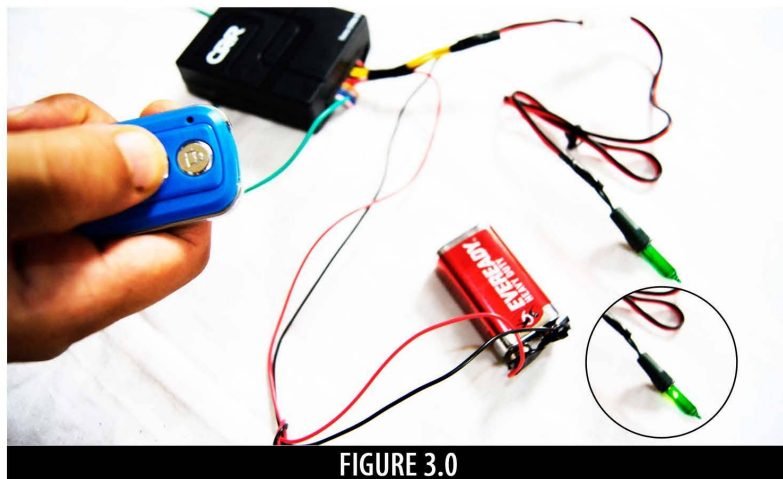
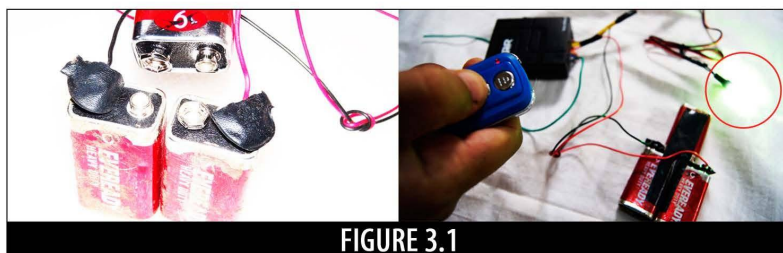

FIGURE 3.0
FIGURE 3.1
14. Connect the battery connector to the 9V battery. Press the unlock button on the remote for testing. If the connection is right, the lamp will light as shown in Figure 3.0.
15. To increase the voltage, increase the number of batteries. Figure 3.1 shows how to use three batteries. Use duct tape to ensure the stability of the batteries. When testing, notice the difference in the light between Figures 3.0 and 3.1. This ends the general assembly of the remote control detonation. It is now ready for use but there are further steps to take for the purposes of safety and ease.